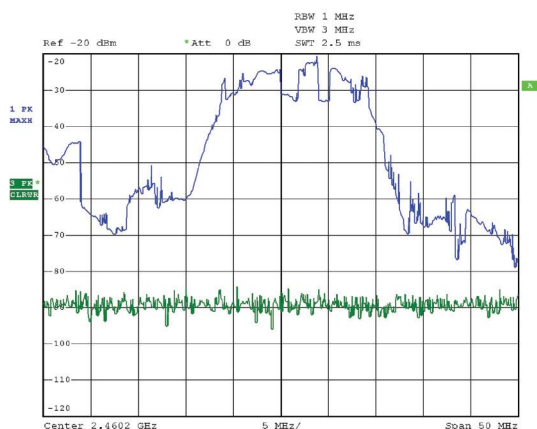
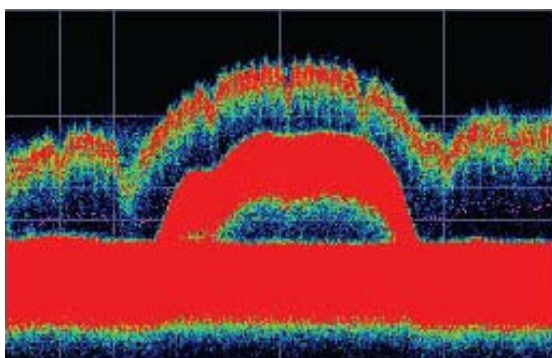

Figure 2
Figure 3
Compare the display of a traditional swept spectrum analyzer (Figure 2) and that of a real-time signal analyzer with a DPX display (Figure 3). The signal captured is a typical WLAN interchange between a nearby PC and a more-distant network access point (AP). The laptop signal is nearly 30 dB stronger than the AP's signal because it is closer to the measuring antenna.
The traditional swept spectrum analyzer display, Figure 2, uses line traces that can show only one level for each frequency point, representing the largest, the smallest or the average power. After many sweeps, the
The DPX display, Figure 3, reveals much more insight on the same signal. Since it is a bitmap image instead of a line trace, you can distinguish many different signals occurring within each update period and/or different version of the same signal varying over time. The heavy band running straight across the lower third of the graph is the noise background when neither the laptop nor the AP is transmitting. The red lump of energy in the middle is the ON shape of the AP signal. Finally, the more delicate spectrum above the others is the laptop transmissions. In the color scheme used for this demonstration ("Temperature"), the hot red color indicates a signal that is much more frequent than signals shown in cooler colors. The laptop signal, in yellow, green and blue, has higher amplitude but doesn't occur nearly as often as the AP transmissions because the laptop was downloading a file when this screen capture was taken.